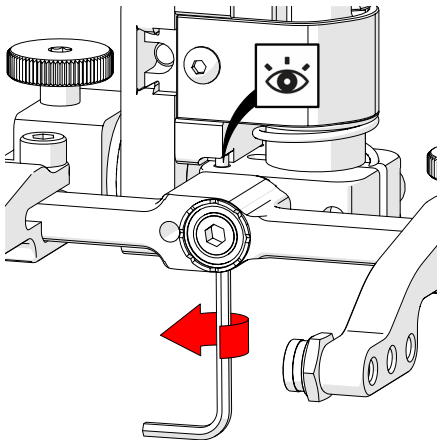

Fig. 127 - Raise opposite 90° stop post
8. Raise the stop post on the opposite side until the side of the post clearly contacts the 90° stop point on the probe holder's base (Fig. 127).